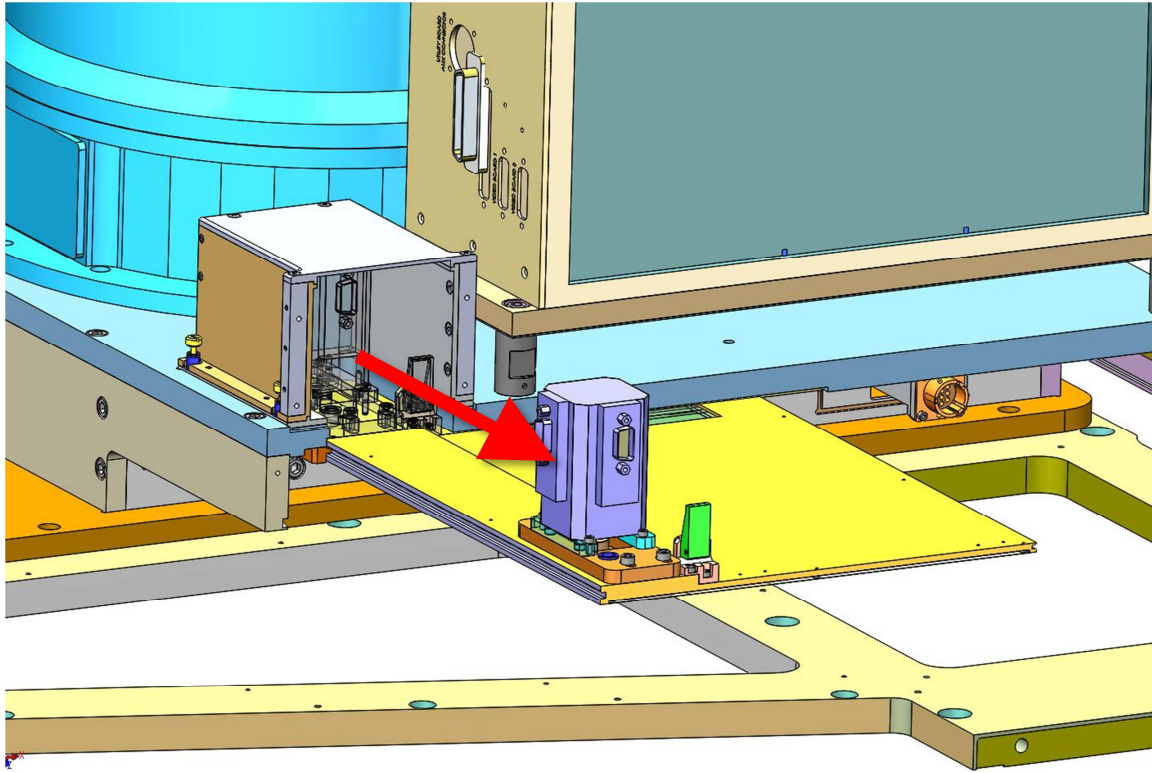

Figure 7. Removal procedure
9. **CAREFULLY** slide the shutter out by pulling it as shown in Figure 7. Check for possible interferences. **If the instrument is facing down, be careful not to drop the shutter**
4. **CAREFULLY** slide the shutter in by pushing it as shown in Figure 7. Check for possible interferences while sliding the shutter in. The lever arm should be parallel to the shutter for insertion